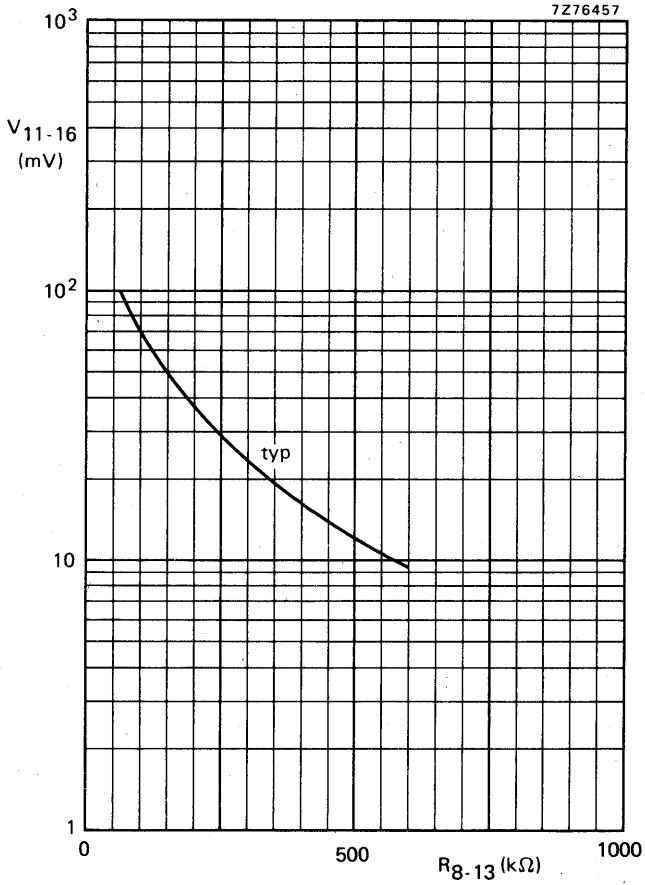

Fig.8 Pilot input voltage switching level as a function of resistance between pins 8 and 13.
- Adjustable with R₁₃₋₈; see also Fig. 8; for field strength dependent input (pin 14) see page 6.